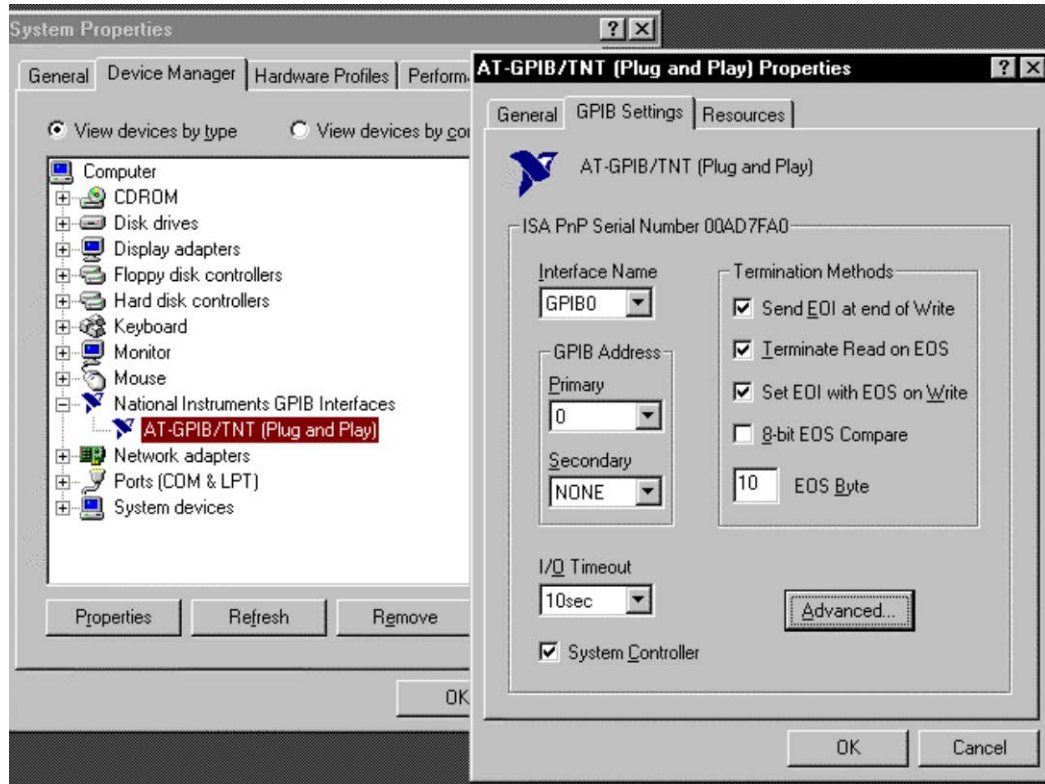

Figure 6-6. GPIB0 Setting Configuration
4. Configure the GPIB by selecting the System icon in the Windows 98/95 Control Panel located under Settings on the Start Menu. Configure the GPIB Settings as shown in Figure 6-6. Configure the DEV12 Device Template as shown in Figure 6-7. Be sure to check the Readdress box.